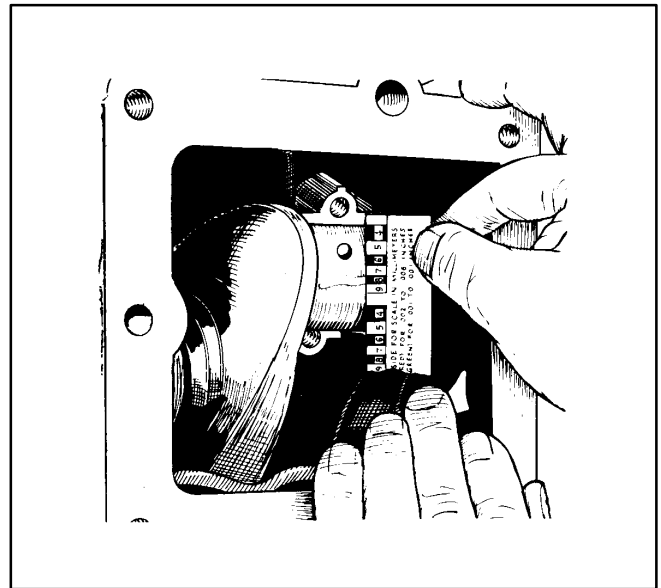

FIGURE 7-23. USING PLASTI-GAGE
2. Select Plasti-gage that corresponds to the connecting rod bearing clearance specification (0.0020-0.0033 inch [0.051-0.084 mm]). Place the piece of Plasti-gage across the full width of the bearing cap, about 1/4 inch (6 mm) off-center (Figure 7-23).